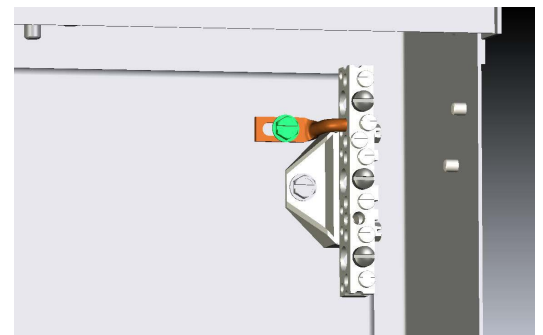

Figure 2. Bonding Strap connected to the Neutral Bar.
- Step 5: Attach the supplied bonding strap to the neutral bar and tighten as shown in Figure 2.